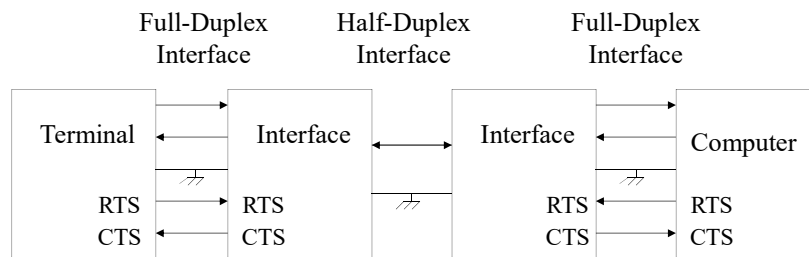

Figure 1 Half-duplex system with handshaking
Figure 1 shows a half-duplex system with additional interface circuitry and handshaking signals defined for the RS-232-C interface standard.
- The blocks labelled “Interface” in Figure 1 are, in practice, **modems**, and the two-wire half-duplex line is a telephone line.